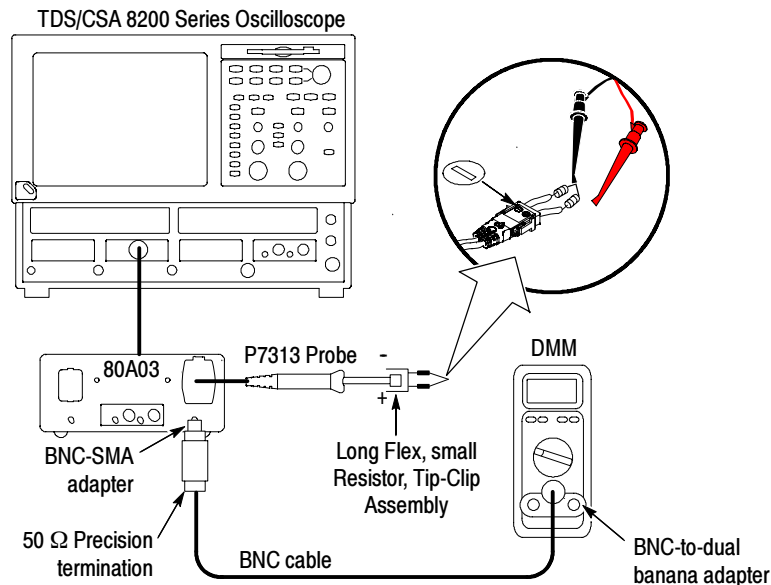

Figure 10: Setup for the output offset zero test
1. After the probe is connected to the 80A03 module and warmed up, connect the equipment as shown in Figure 10.
2. Use the BNC(m)-to-Minigrabber (black) Minigrabber clips to short the two Tip-Clip leads together (see Figure 10).